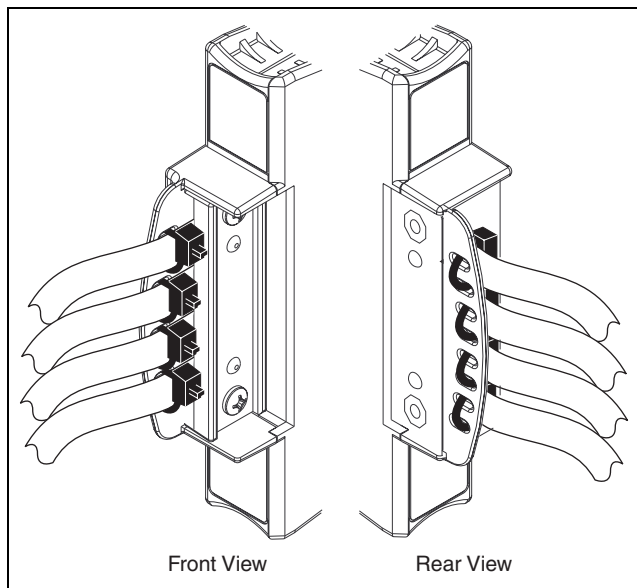

Figure 13. Tie Wraps
4. Install tie wraps as shown in Figure 13.